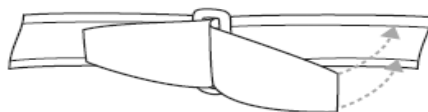

Figure 2. Adjustable Strap Placed Through Belt Loop and Affixed Using Fasteners
Note: A Charging Belt Extension is available if the Charging Belt is too small. If using the extension, insert one strap through the loop on the extension and fasten the strap onto the belt (Figure 2).
5. To set the length of the Charging Belt, place the Charging Belt around your body and insert each strap through the Belt Loop. Affix the straps using fasteners. Each strap is adjustable. See Figure 2 and Table 3 for reference.
Affix the adjustable straps so that the Belt is slightly loose at first. In order to properly use the Charging Belt, both of the straps must go through the Belt Loop (Figure 2).